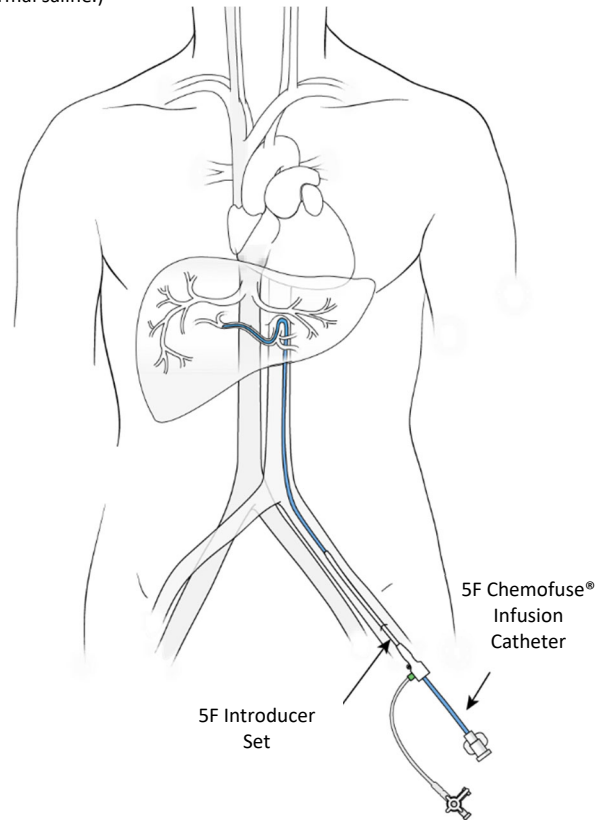

Figure 25
- (a) Introduce the 5F Chemofuse® catheter through the sheath and manipulate it over a guidewire into the proper hepatic artery see Figure 25. At the discretion of the Interventional Radiologist, a microcatheter may be coaxially introduced through the 5F catheter for selective catheter tip placement for drug infusion. If a microcatheter is used, attach a rotating hemostatic valve (Touhy-Borst type) to the 5F catheter and insert the microcatheter into the 5F catheter through the valve. Three microcatheters have been qualified by Delcath for use with the CHEMOSAT® Hepatic Delivery System. Select one of the three microcatheters qualified (see Description of System Components (pg. 6).